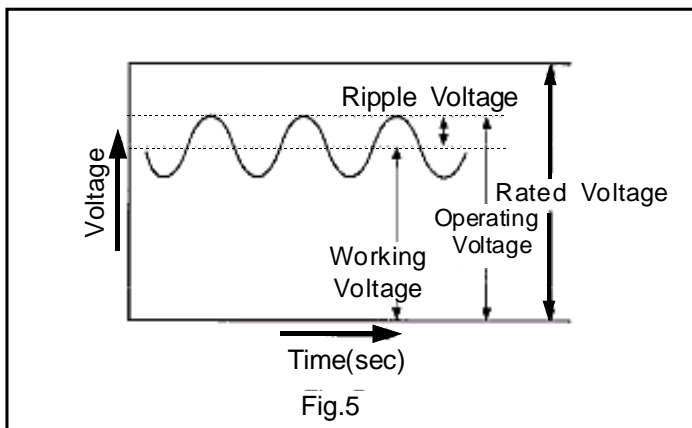

Fig.5
- ▷ The tantalum capacitors must be used in such a conditions that the sum of the Working Voltage and ripple voltage peak values does not exceed the rated voltage (Fig. 5)